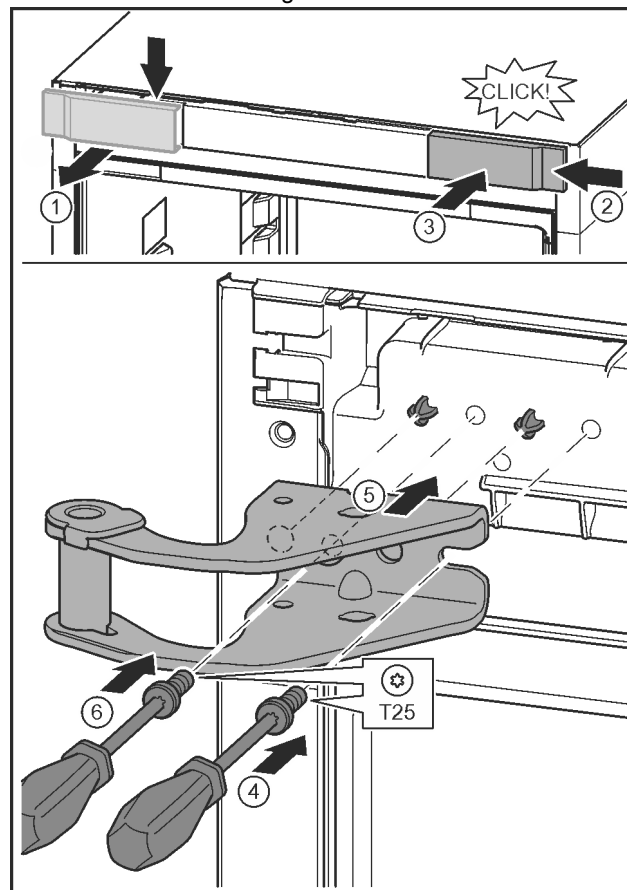

Fig. 13
- ▶ Release the cover and remove from the side. *Fig. 13 (1)*
- ▶ Rotate the cover 180° and clip onto the other side from the right. *Fig. 13 (2)*
- ▶ Click the cover into place. *Fig. 13 (3)*
- ▶ Position the screw with a T25 screwdriver. *Fig. 13 (4)*
- ▶ Position the upper bearing bracket. *Fig. 13 (5)*
- ▶ Tighten the screw. *Fig. 13 (4)*
- ▶ Insert the screw with a T25 screwdriver and tighten. *Fig. 13 (6)*